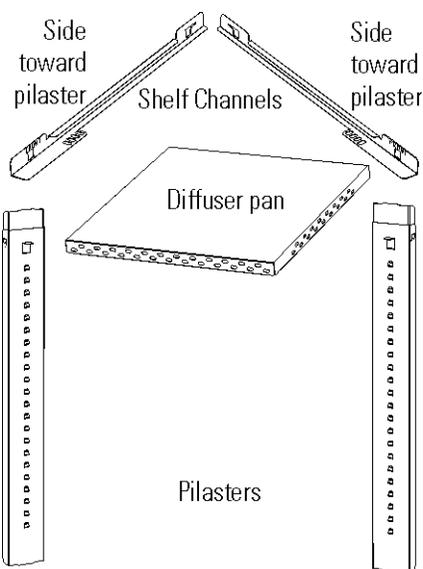
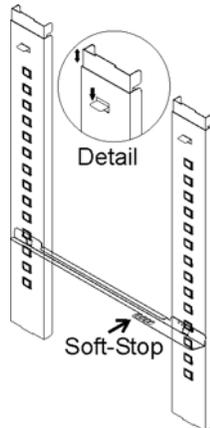

Figure 1-7. Shelf Installation
Figure 1-9. Installed Shelf Channel Showing Soft-Stop
1. Install the pilasters, two on each side, with the tab facing into the center of the chamber with their slots up. Press downward on the top section of each pilaster to locate, then release when in position (Figure 1-9). Fit each pilaster securely into the indentations at each side of the ceiling and the floor of the chamber. Figure 1-7 shows the diffuser pan, pilasters, and shelf channels.
- Figure 1-9 shows a shelf channel installed on pilasters on the right side of the chamber.